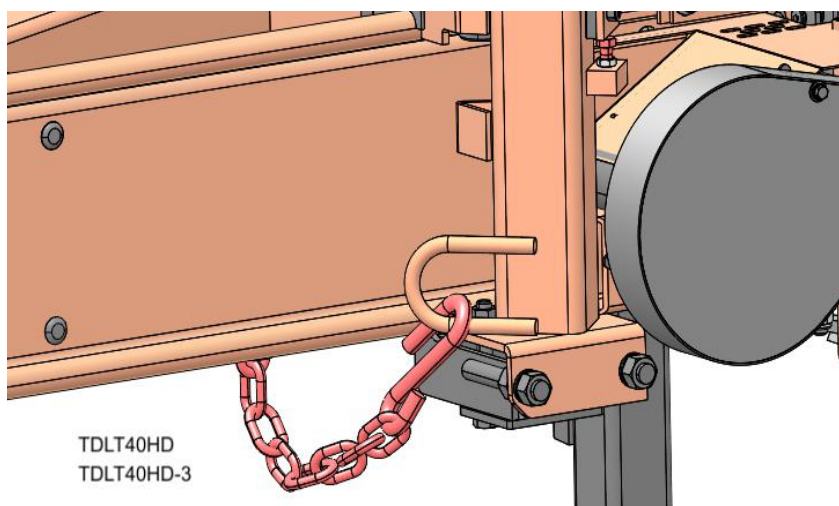

FIG. 4-16
15. Hook the carriage safety chain (shown in red) located at the bottom of the carriage to the bracket at the bottom of the mast. See FIG. 4-16.